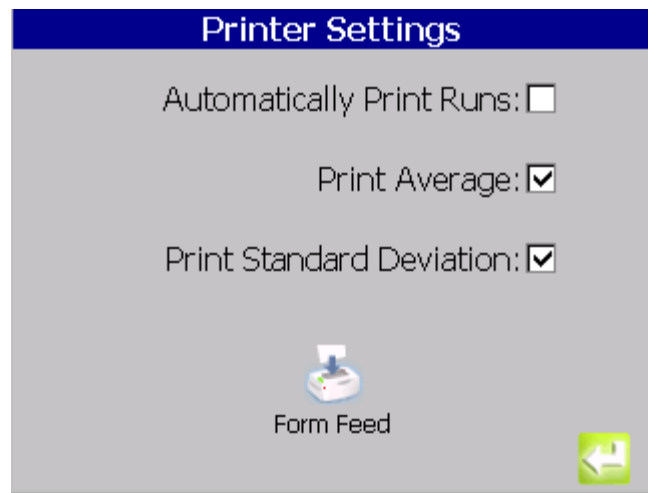

Fig 4-4 : Print Tab
- 1) From the main screen, select the **Settings** icon > **Printer** icon to invoke the **Printer Settings** screen, shown in Figure 4-4.